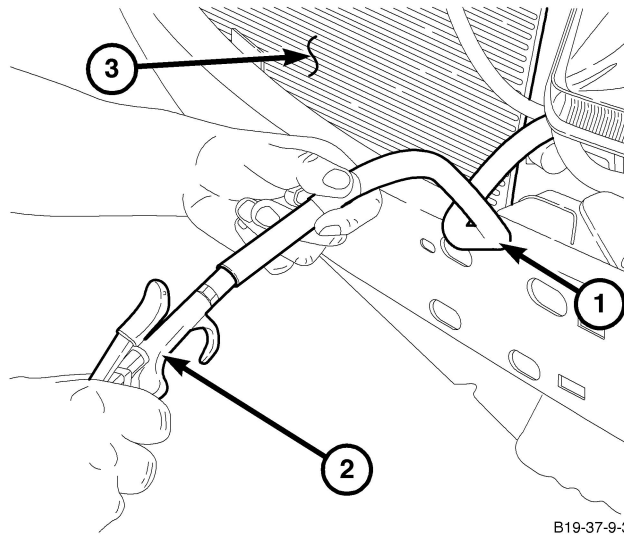

Fig. 4 FLUSH THE FLUID
15. Remove the power steering return hose connected to the steering reservoir and using a safety regulated rubber tipped blow gun, extract the remaining power steering fluid in the tri-cooler at 5 psi (Fig. 4).